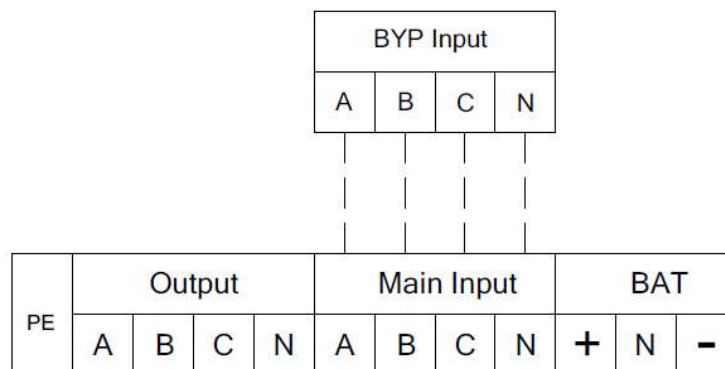
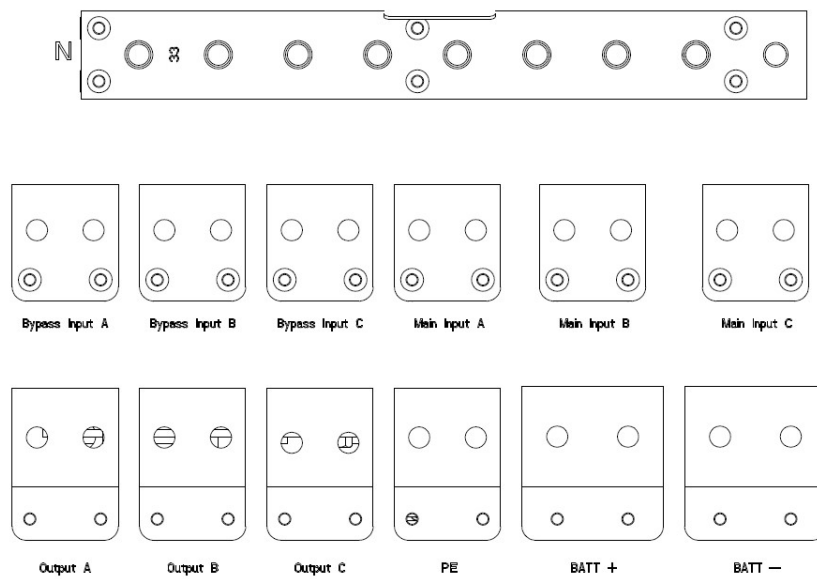
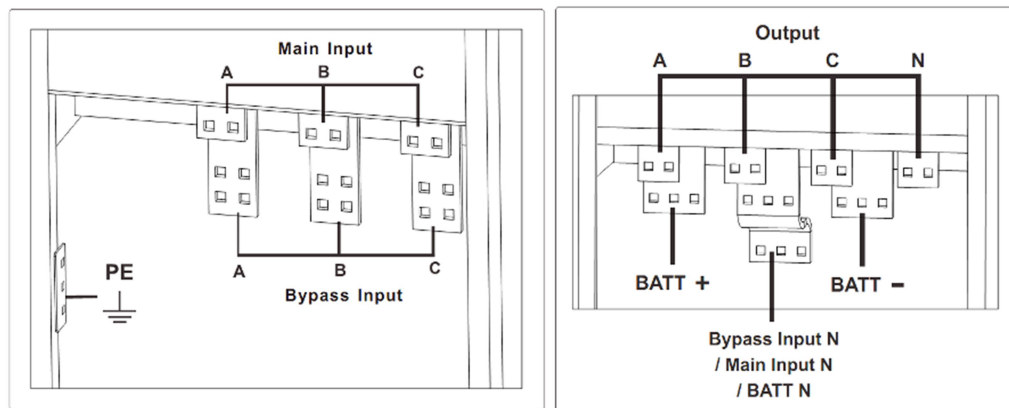

Figure 2-17 6-slot connections terminals (separate bypass input is optional)
Figure 2-18 10-slot connections terminals (separate bypass input is optional)
Figure 2-19 20-slot connections terminals
- 2) Open the back door of the cabinet, remove the plastic cover. The input and output terminal, battery terminal and protective earth terminal are shown in Figure 2-17, Figure 2-18 and Figure 2-19.